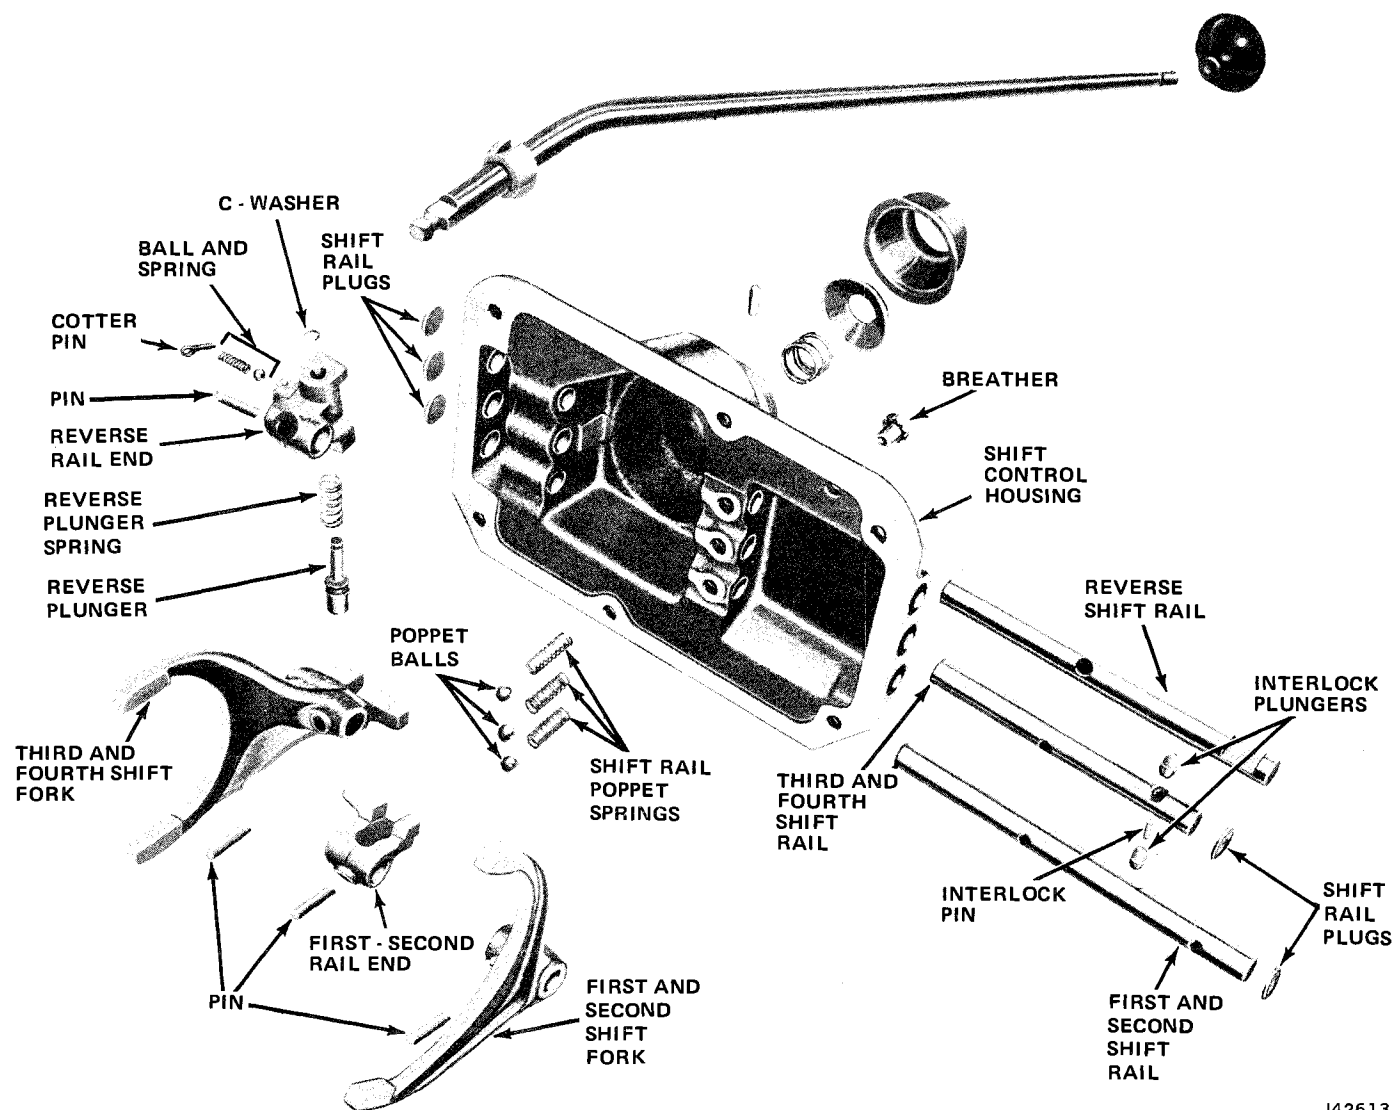

Fig. 2B-46 Shift Control Housing—4-Speed Transmission
(1) Remove shift lever (fig. 2B-46).
(2) Mount housing in vise with shift forks facing upward.